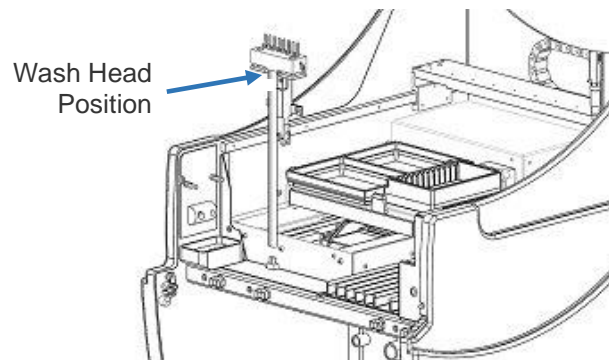

Figure 176: Connecting the Twin Bore Wash Head Tubing
13. Holding the wash head upright (Figure 176), connect the free end of the new twin bore wash head tube to the wash head manifold.